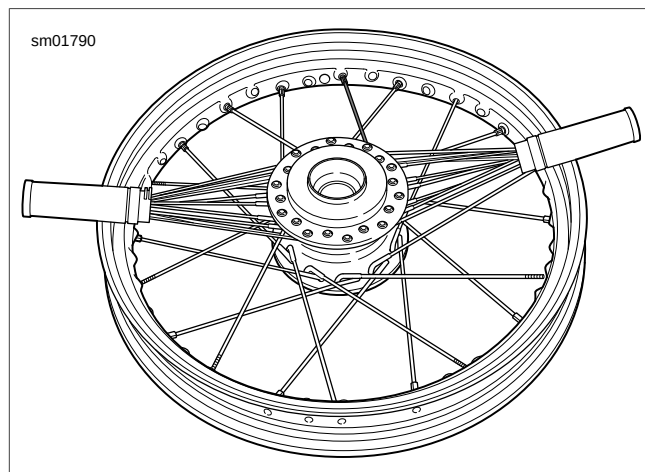

Figure 2-49. Beginning Spoke-Bottom Flange Outer
10. Work with the bottom flange of outer spokes (short-head) first. See Figure 2-49. Using the spoke alignment method discussed previously, locate a spoke hole in the rim